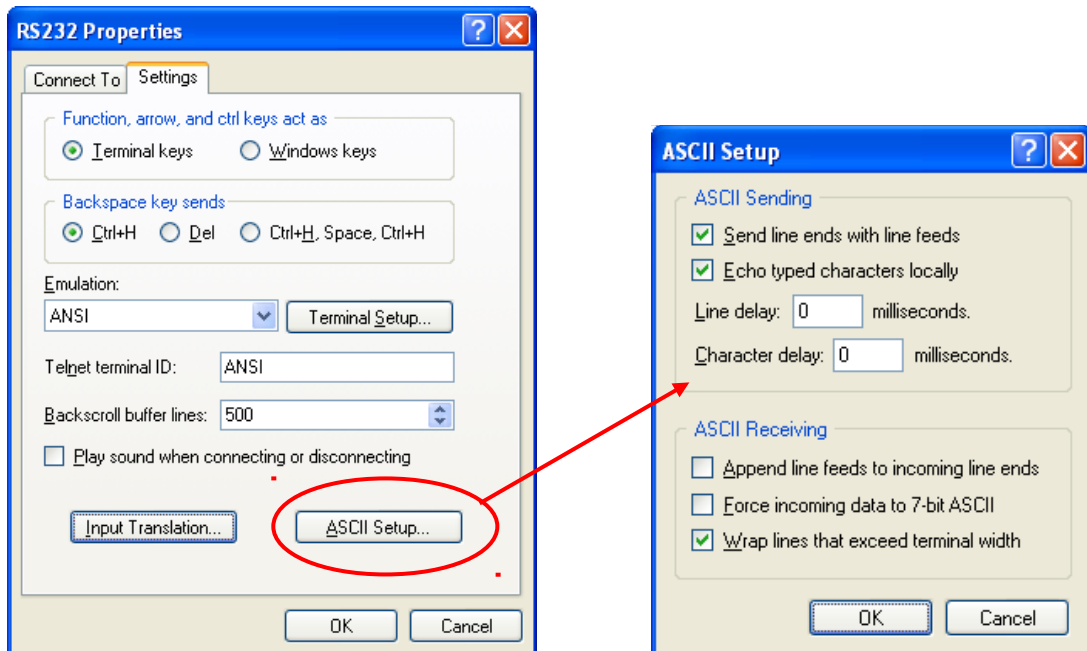

Figure 6 - HyperTerminal ASCII setup.
3. The suggested configuration for the ANSI is depicted in Figure 6.